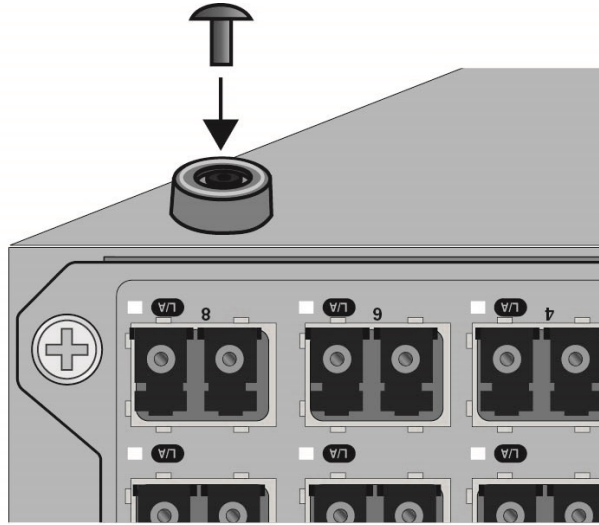

Figure 46. Inserting the Rivet into the Bumper Foot
- c. Insert the rivet to secure the bumper foot to the base. Refer to Figure 46 on page 79.